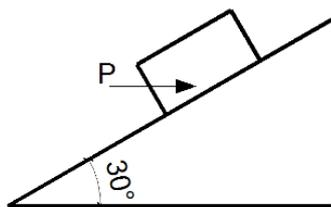

Fig. 8
- (c) Determine the horizontal force required to cause the motion of the block weighing 550N as shown in fig.8. Take  $\mu = 0.55$ . **07**